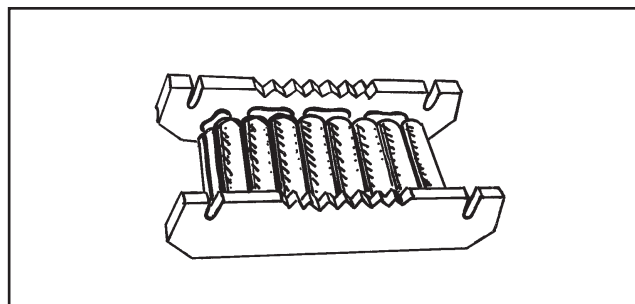

Figure 1.12 Multi-wheeled skate
- **Rollers**—placed under heavy loads to move them into position. The rollers may be simply pieces of water pipe or round rod, or may be more sophisticated, such as air bags, for use over rough terrain, or multi-wheeled skates to move very heavy loads (Figure 1.12). The larger the diameter of the roller, the easier the object is to move. The path of travel of the load must be cleared of all obstacles before commencing the move.